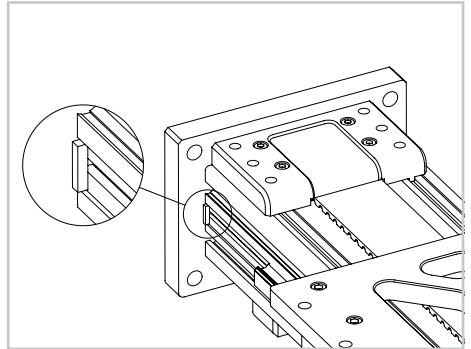

Fig. 17
- 10) Place the new belt on the lower belt clamp (see Fig. 17).